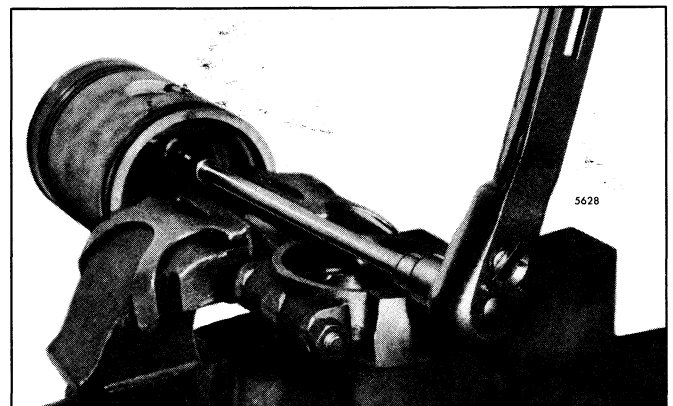

Fig. 17 - Tightening Connecting Rod to Piston Pin Bolts
7. Insert the bolts through the end of the connecting rod and thread fingertight into the piston pin. Then, clamp the connecting rod in a vise (Fig. 17) and tighten the bolts to 35-45 lb—ft (47-61 N*m) torque, followed by 60° to 80° additional rotation. This method also applies to the former bolts used with either the former or current piston pin.